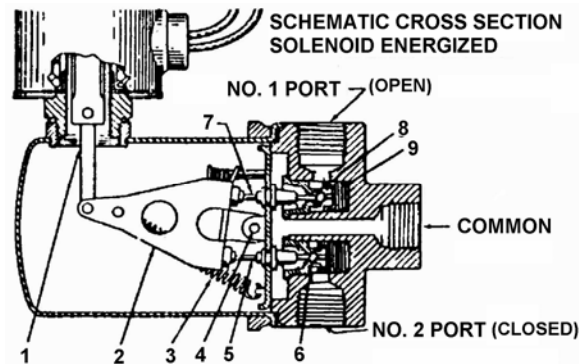

Fig. 3 Lever Action Type Valve Energized
When the controlling electrical circuit closes, energizing the solenoid, the plunger assembly (1, Figure 3), is magnetically lifted, pivoting the rocker arm (2) about shaft (4). This action forces No.1 port push rod (7) to open No. 1 port to common and releases No. 2 port push rod (5) to allow No. 2 port valve spring to close No. 2 port valve (6).